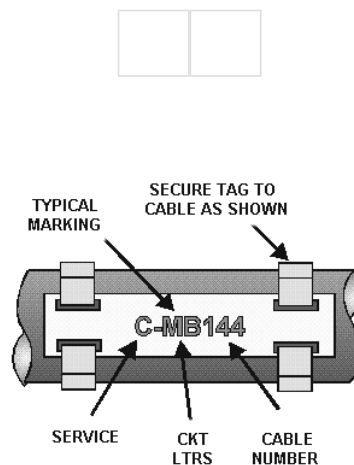

Figure 3-1.—Cable tag.
Metal tags embossed with the cable markings are used to identify all permanently installed shipboard electrical cables. These cable tags (figure 3-1) are placed on cables close to each point of connection, and on both sides of decks, bulkheads, and other barriers to identify the cables. The markings on the cable tags identify cables for maintenance and circuit repairs. The tags show (1) the SERVICE LETTER, which identifies a particular electrical system, (2) the CIRCUIT LETTER or LETTERS, which identify a specific circuit within a particular system, and (3) the CABLE NUMBER, which identifies an individual cable in a specific circuit.
In figure 3-1, note that the cable is marked "C-MB144." The letter C denotes the service; in this case, the IC (interior communication) system. The letters MB denote the circuit; in this case, the engine-order circuit. The number 144 denotes cable number 144 of the MB circuit.